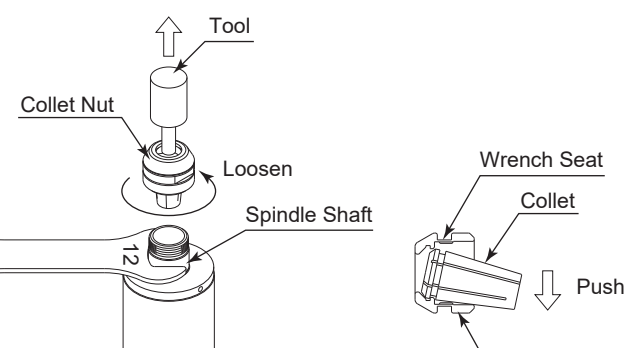

Fig. 4
- Remove the tool according to the section 8. " CHANGING THE TOOL " procedure above and remove collet nut assembly. (Fig. 4)